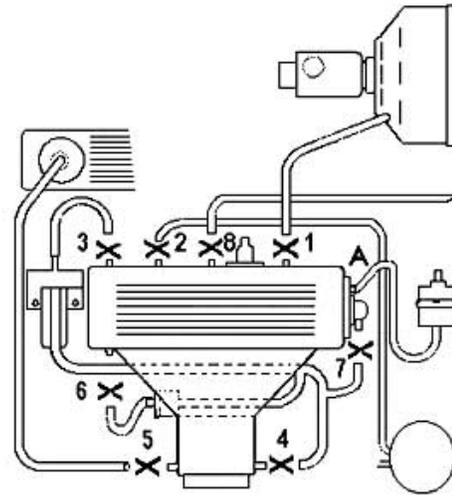

Fig.1. Plenum Air Connections
- Begin by disconnecting the vacuum pipe ('A' in fig.1) to the fuel pressure regulator and suck on the open pipe to check the integrity of the regulator and the pipe. If the vacuum generated by sucking does not hold, check the pipe. If the vacuum still won't hold, the regulator is definitely faulty. This test can also be performed using a vacuum pump working at no more than 15 inches of mercury.
- With the exception of the pressure regulator connection, all the air/vacuum connections at the plenum have now been sealed off, as illustrated in Fig.1.